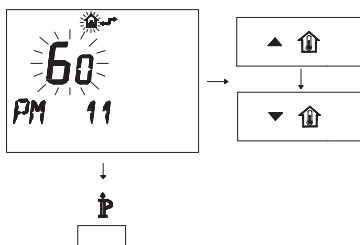

Fig. 8.21
- To modify the programmed SET, act on buttons ▲⬆ or ▼⬆ and wait for the programmed number to flash (Fig. 8.21). Each step increased or decreased corresponds to 1 second.